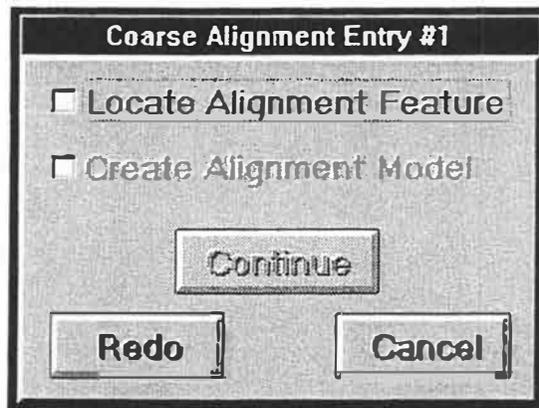

Figure F-5. Coarse Alignment Entry #1 Dialog Box
2. When Coarse Alignment Operations is selected from the Alignment Program Options dialog box the Coarse Alignment Entry #1 dialog box will be displayed (see Figure F-5). Click on "Locate Alignment Feature" and "Continue".